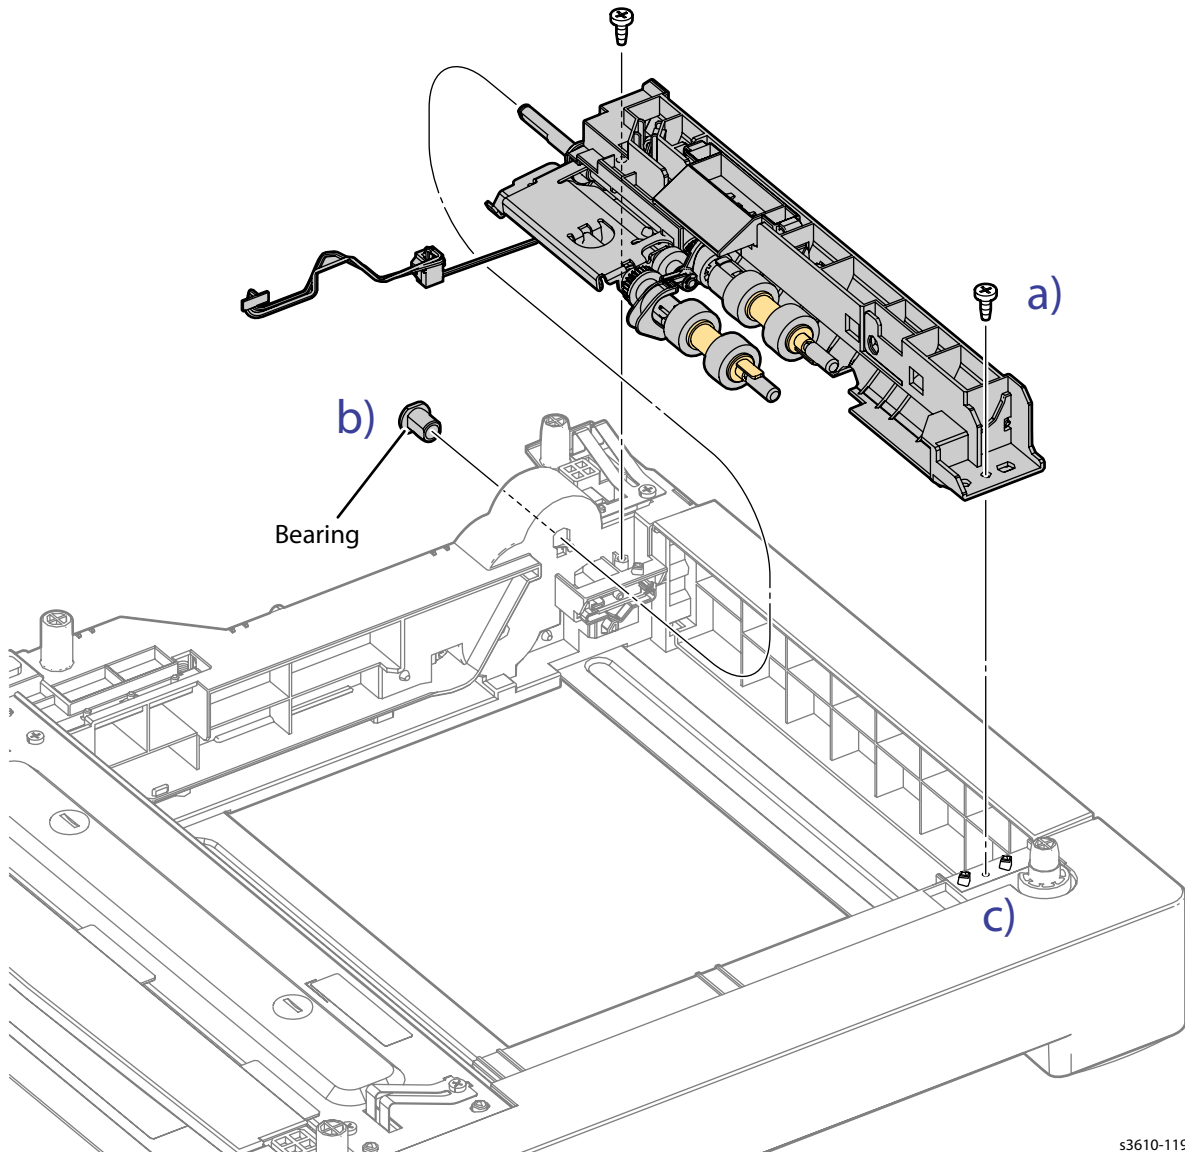

Figure 2
4. Remove the Feeder Assembly. (Figure 2)